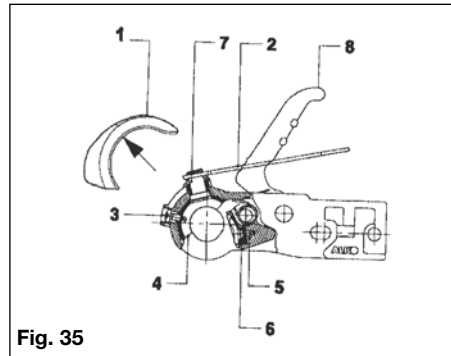

Fig. 35
2. Remove the rubber soft dock (pull up and off) Fig. 35/Item 1 & Fig 36.
3. Press the safety indicator outwards and secure with SW14 hex. spanner (not included), (Fig. 35/Item 2).
4. Remove cheese-head screws (Fig. 35/ item 3 & Fig 36), using special torx tool.
5. Press friction lining recess (Fig. 35/Item 4) inwards and pull down and out.
6. Open coupling handle (Fig. 35/Item 8).
7. Remove countersunk head cap screw using special torx tool (Fig. 35/Item 5 & Fig. 37).